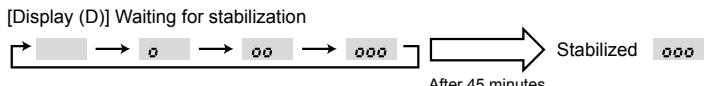

Fig. 8-3
(3) Press **FILTER** ( $\leftrightarrow$ ) button to confirm. (Fig. 8-3)